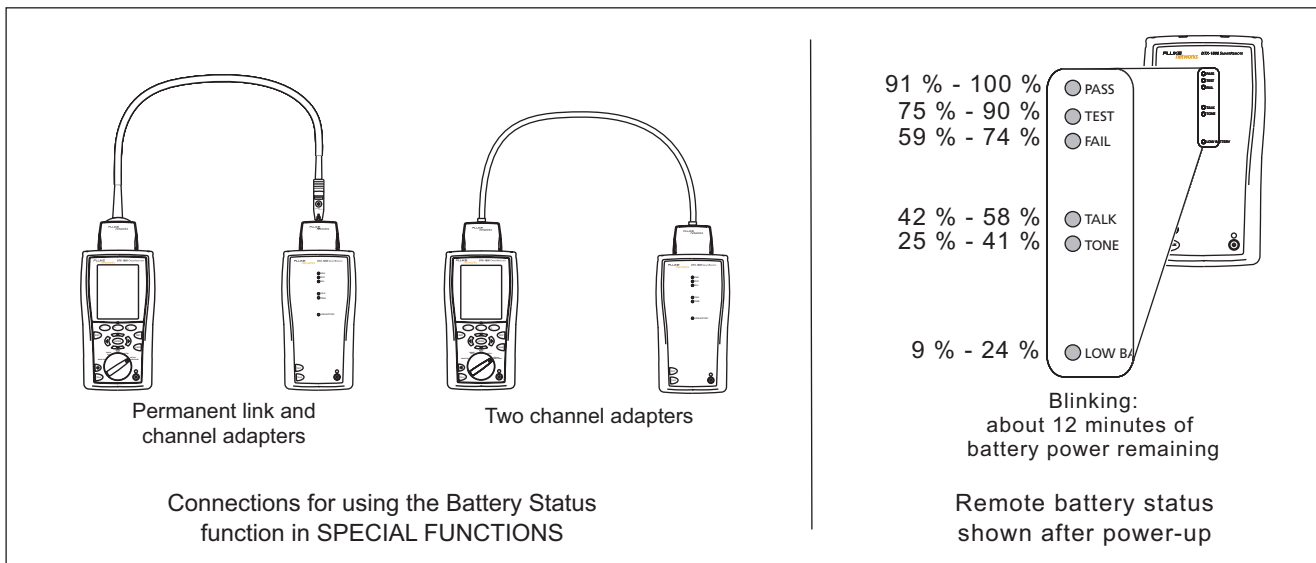

Figure 1-5. Checking the Battery Status
The LEDs also act as a battery gauge. See Figure 1-5 on page 1-17.
The battery status icon () near the upper-right corner of the tester's main screens shows the battery's charge level. The smart remote's LEDs show the smart remote's battery status at the end of the power-up cycle, as shown in Figure 1-5.
- 2 Connect the tester and smart remote as shown in Figure 1-5. You may also connect the testers through a link.